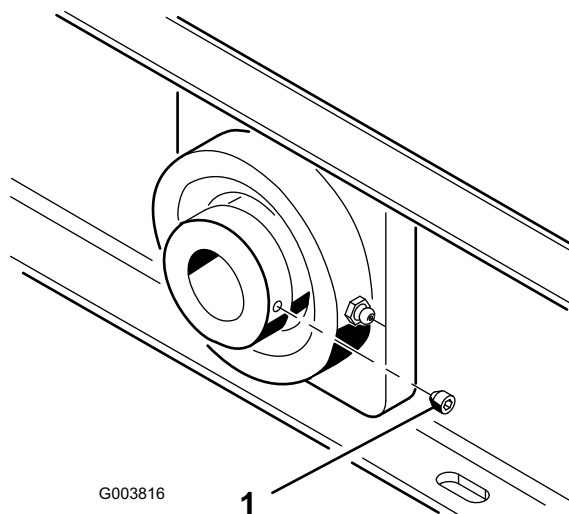

Figure 11
- The fan shaft bearing set screws (Figure 11) must be torqued to 58 to 82 in-lb.